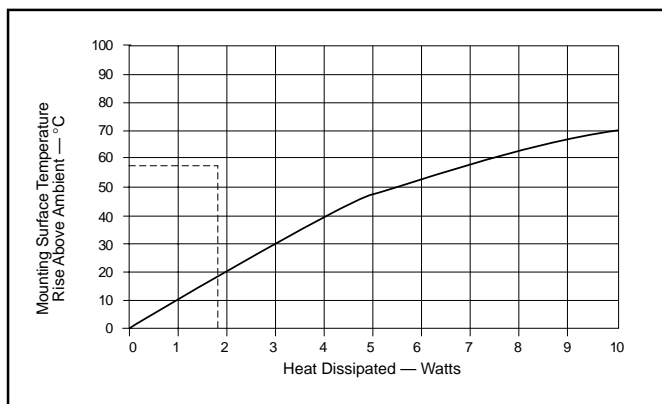

Figure 4. 504222 heatsink performance curve from AAVID Thermal Technologies product selection guide.
**Step 4:** Select the right heatsink. Each heatsink has a performance curve which shows its heat dissipation capability in still air (Figure 4).
We have already chosen a TO220 package. To select an appropriate heat sink we consult the performance curve for the AAVID Thermal Technologies 504222 low profile model. It shows the temperature rise of the package mounting surface as a function of power dissipation: e.g. if 2 watts is dissipated, the surface temperature only rises about  $20^{\circ}\text{C}$  above ambient (Figure 4). Locate the value of the power dissipation,  $P_D$  (1.83W) on the X axis of the graph (Heat dissipated - Watts). Then locate the value of allowable heatsink temperature rise above ambient on the Y axis of the graph. The allowable temperature rise in this case is  $58.56^{\circ}\text{C}$  ( $1.83 \times 32$ ).
Consulting Figure 4, we see that the heat sink curve lies below the allowable temperature rise so it will work in this application.